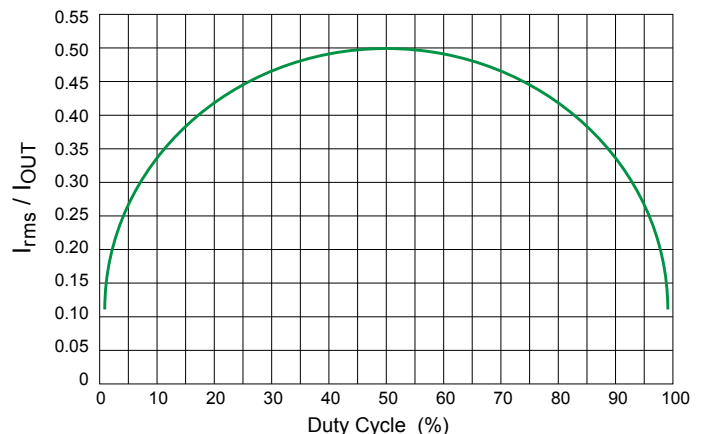

Figure 13: Input Capacitor Ripple versus Duty Cycle
Figure 13 shows the normalized input capacitor rms current versus duty cycle. To use this graph, simply find the operational duty cycle (D) on the x-axis and determine the input/output current multiplier on the y-axis. For example, at a 20% duty cycle, the input/output current multiplier is 0.40. Therefore, if the regulator is delivering 3.0 A of steady-state load current, the input capacitor(s) must support 0.40 × 3.0 A, or 1.2 A_{rms}.